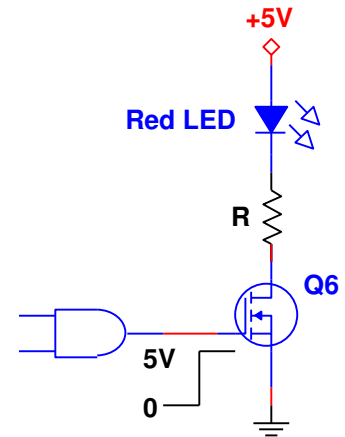

Fig. 7
7) Consider the LED driver shown in Fig. 7. The design constraints are shown below.